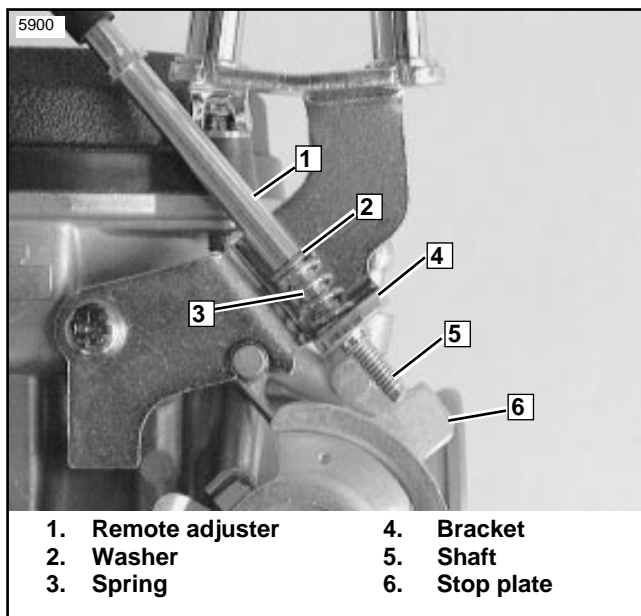

Figure 1. Installation
3. See Figure 1. Lubricate threads on adjuster shaft. Thread remote adjuster (1), spring (3) and washer (2) into bracket (4). Adjuster shaft (5) must touch stop plate (6). Apply a dab of grease on adjuster above threads to help hold washer and spring in place.